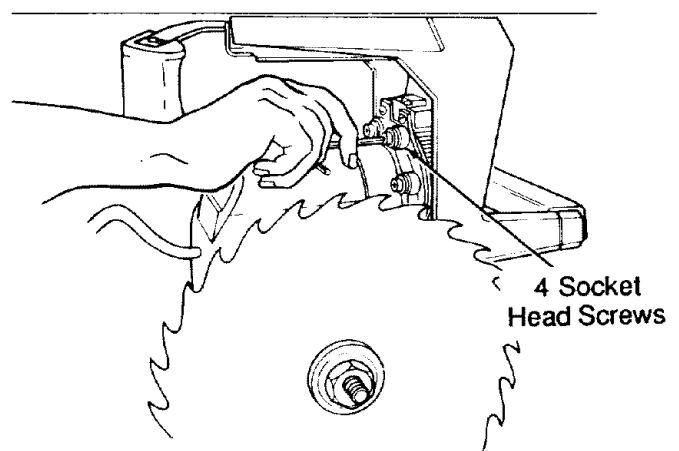

Fig. 82
9. Loosen the four screws behind the *yoke* using a 3/16 inch hex-L wrench. (Figure 82)